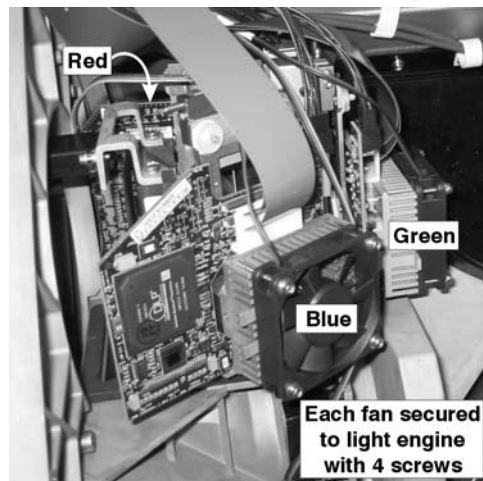

Figure 14. Location of DMD Fans on Light Engine
3. Remove the four (4) screws securing the fan to the light engine. (Figure 14)